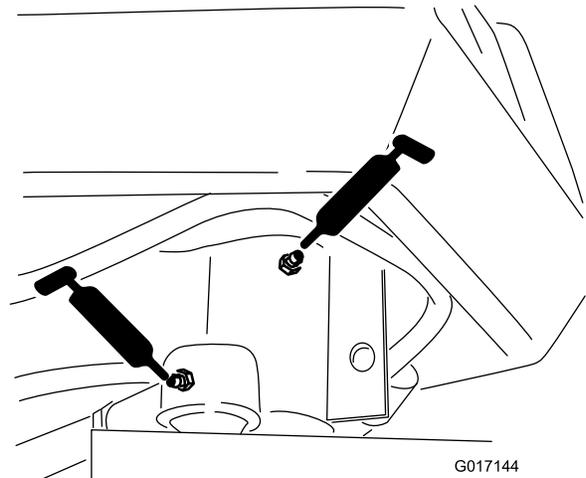

Figure 28
- Steering-fork shaft (1) (Figure 28)
- Steering-cylinder-rod end (Figure 28)